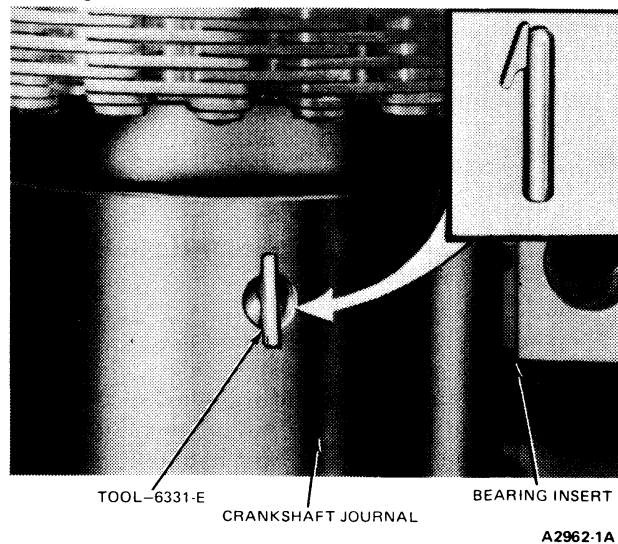

FIG. 28 Removing or Installing Upper Main Bearing Insert
3. Insert the upper bearing removal tool (Tool 6331-E) or equivalent in oil hole in crankshaft (Fig. 28).
1. To install upper main bearing, place plain end of bearing over shaft on locking tang side of block and partially install bearing so Tool 6331-E or equivalent can be inserted in oil hole in crankshaft (Fig. 28). With Tool 6331-E or equivalent in oil hole,